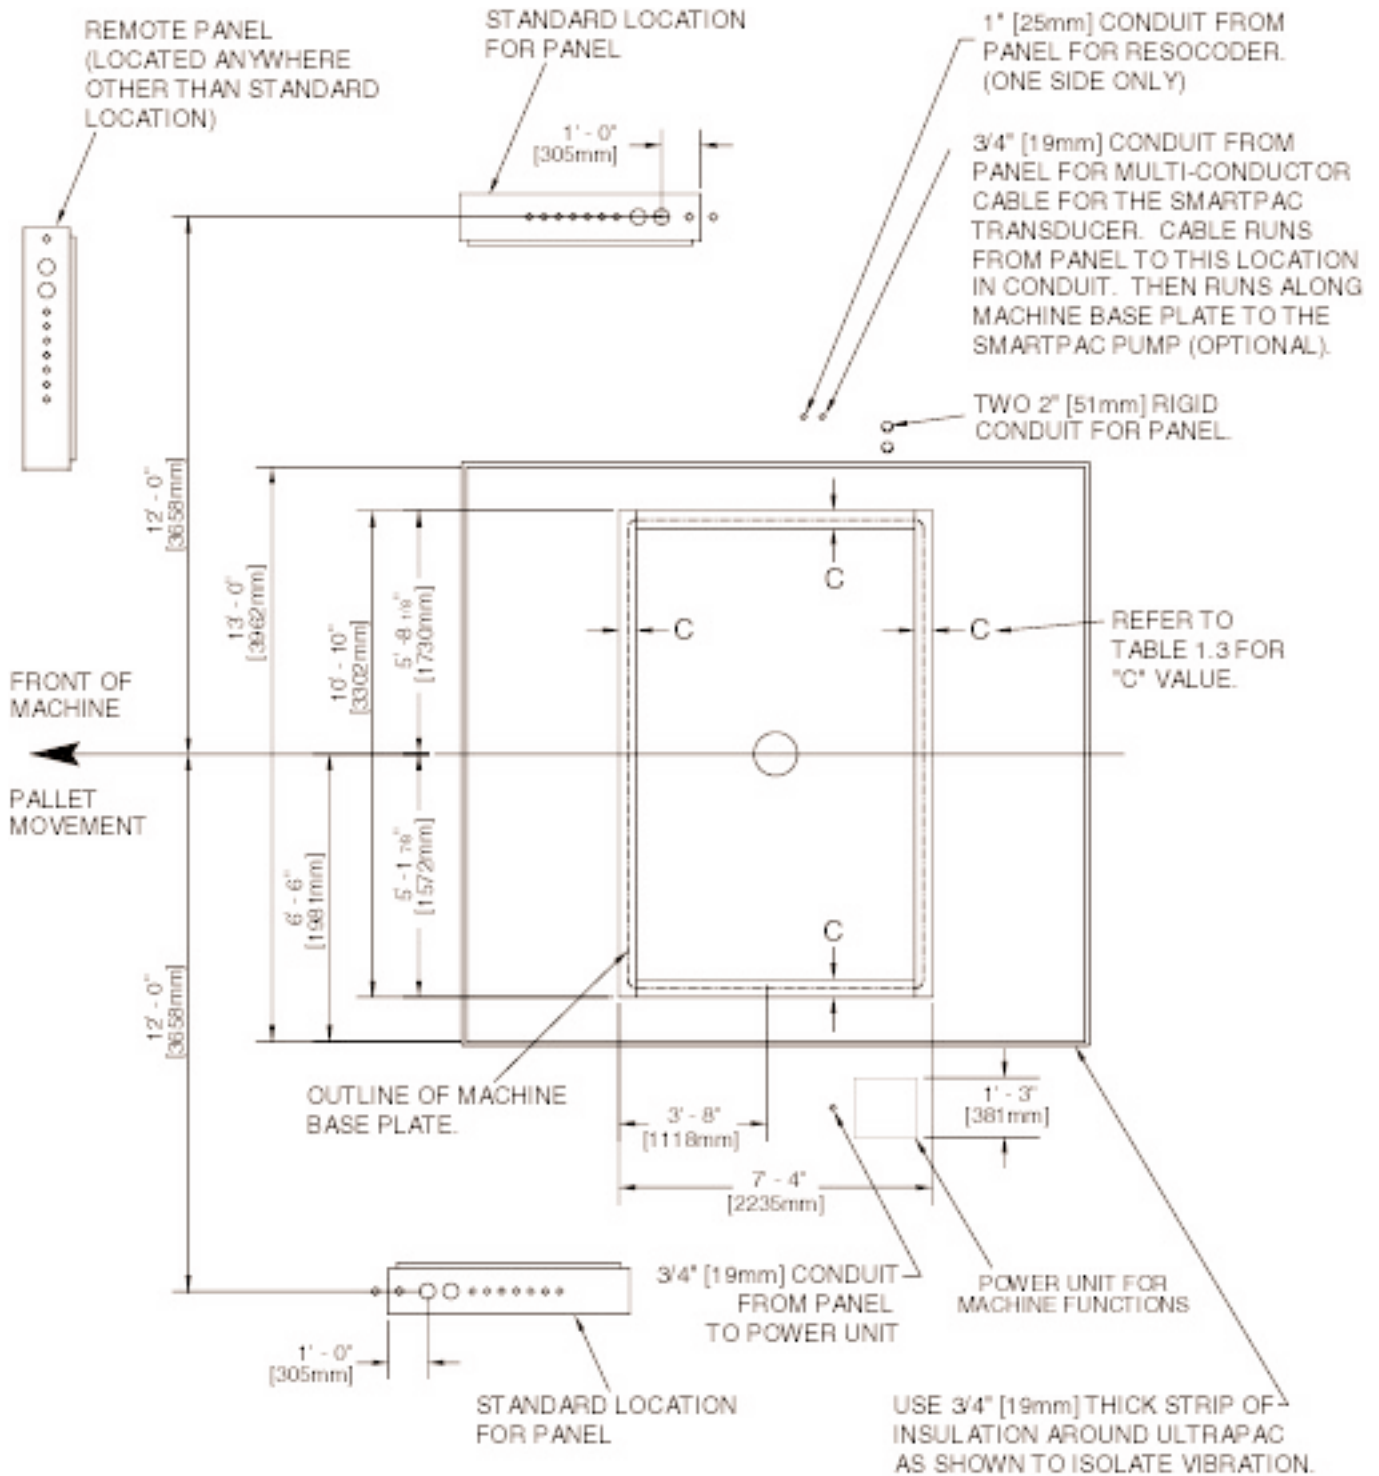

Figure 1.4 TOP VIEW.
8. The electrical panel can be installed on any side of the machine but is usually installed on the opposite side of unloader (see figure 1.4). It can also be installed in any location to accommodate specific plant layout.
9. A conduit for electrical panel can be installed as shown on figure 1.4.
10. A conduit for the resocoder must also be installed as shown on figure 1.4.